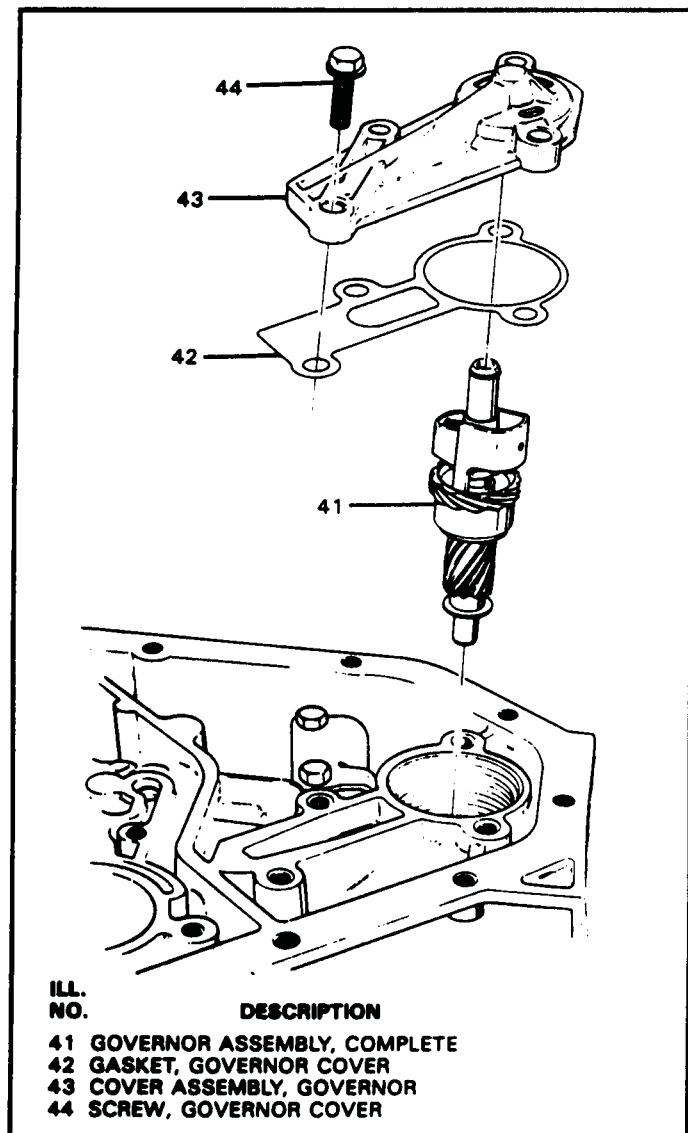

Figure 38
39. Remove the governor cover retaining bolts as shown in Figure 38, and remove the governor cover and gasket.
40. Remove the governor assembly from the case as shown in Figure 38.